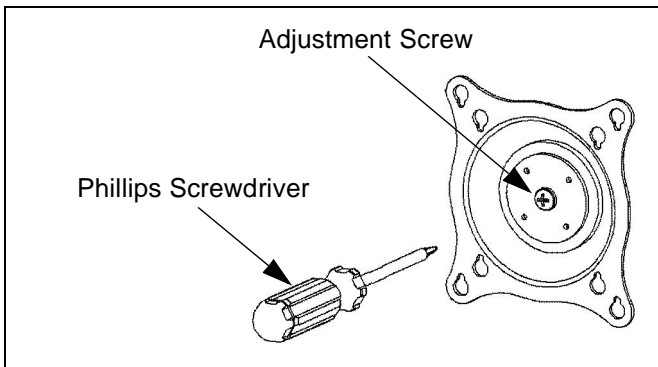

Figure 26: Single Display Adjustment
2. Using Phillips screwdriver, slightly loosen or tighten the adjustment screw as necessary (See Figure 26).